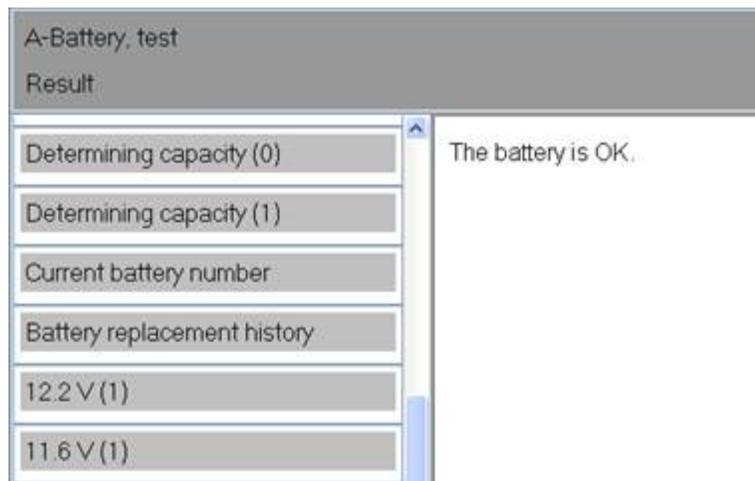

Figure 3. Battery test result.
- View the test result (Figure 3):